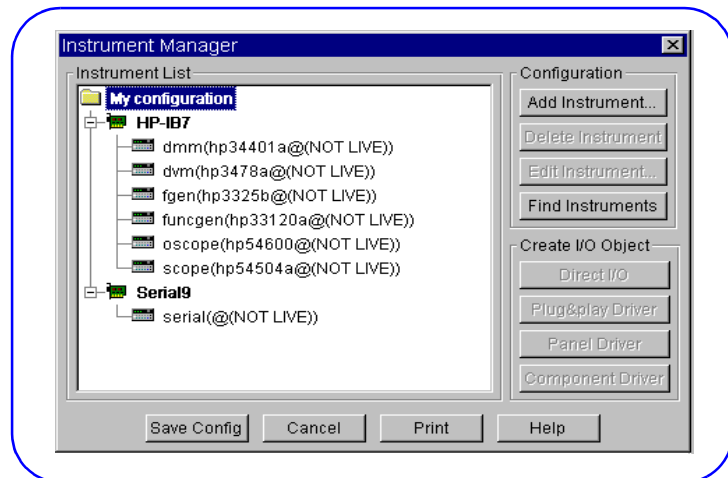

Figure 30. HP VEE Instrument Manager - Default Screen
- 1 To run this example, turn PC and mainframe power ON and open HP VEE. Then, select the *I/O/Instrument Manager...* menu item to display the default Instrument Manager screen (see Figure 30).